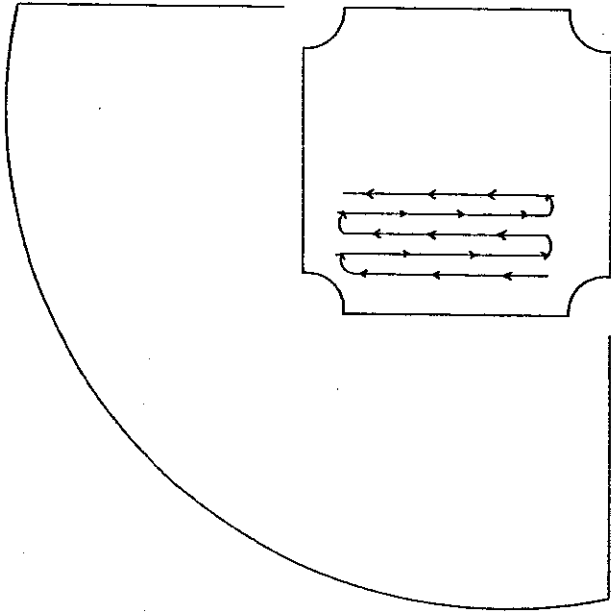

Figure 9.
- a. Third base foul line to second base. (Figure 9.)